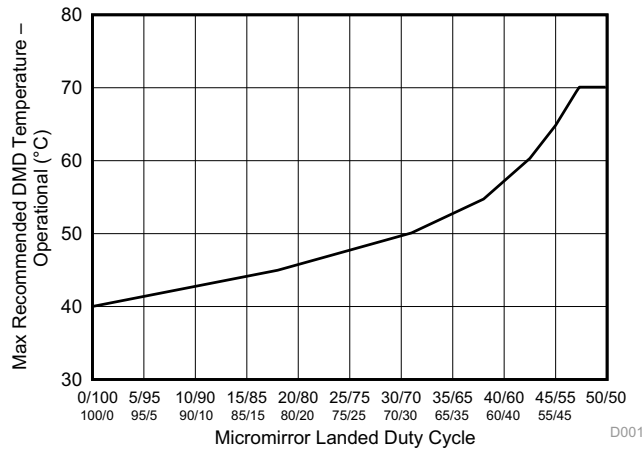

Figure 1. Maximum Recommended DMD Temperature – Derating Curve
- (6) Long-term is defined as the average over the usable life.
- (7) Per Figure 1, the maximum operational case temperature at test points TP1 and TP2 as shown in Figure 9 or Figure 10 should be derated based on the micromirror landed duty cycle that the DMD experiences in the end application. Refer to Micromirror Landed-on/Landed-Off Duty Cycle for a definition of landed duty cycle.